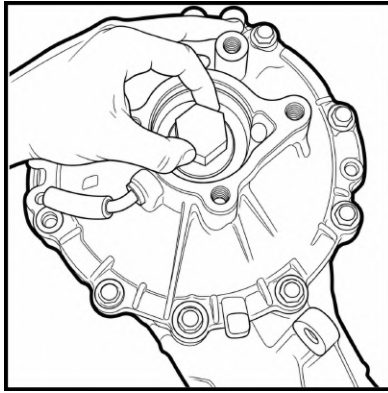

Fig. 36
3.10 To adjust backlash, the Electric Locker must be rotated. Because the unit is equipped with a cross shaft featuring a through-hole, the previously described rotation method cannot be used. A special backlash adjustment adapter is supplied in the kit. Install the adapter on the bearing journal, ensuring that its protrusions fully engage the corresponding notches on the journal. **(Fig. 36)** Fit a **35 mm** socket wrench to the adapter and use it to rotate the unit during backlash measurement.